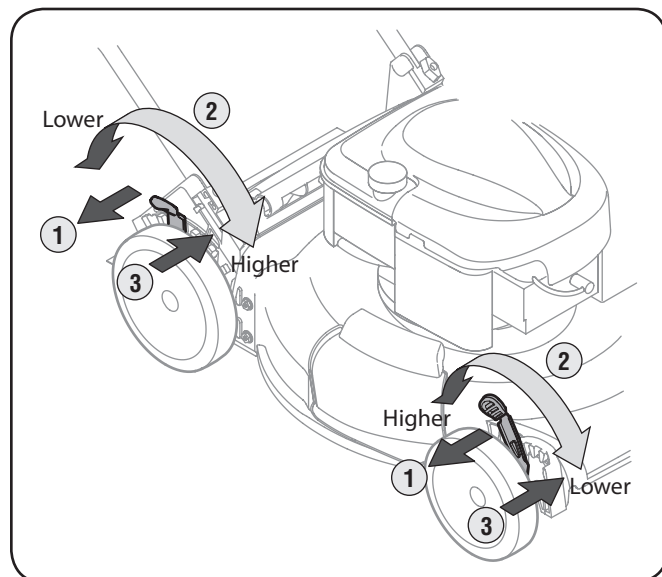

Figure 3-10
2. Move lever to desired position for a change in cutting height. See Fig. 3-10.